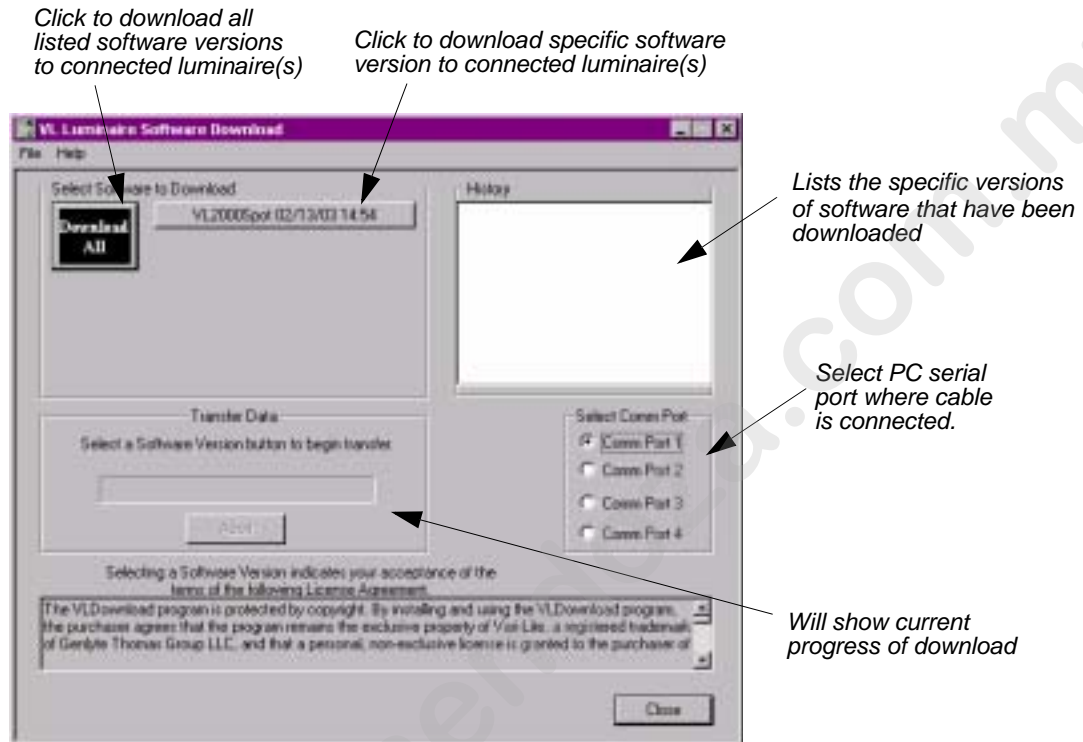

Figure 3-6: Download Interface Window
- Step 6. At Select Comm Port section of window (refer to Figure 3-6 on next page), select serial Comm Port (Comm Port 1, Comm Port 2, Comm Port 3, or Comm Port 4) where *Serial Straight Thru Cable* is connected.